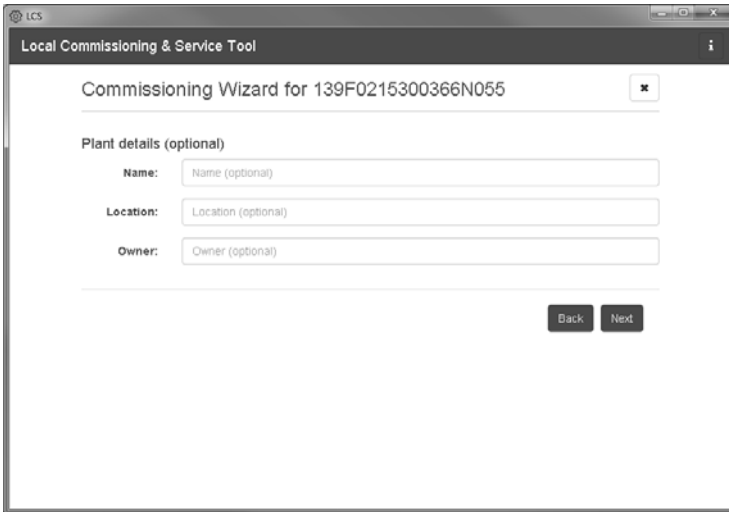

Figure 5.4 LCS tool - PV system details
- 5. Optionally, you can assign a name, location and owner of the Inverter Manager. See figure 5.4.